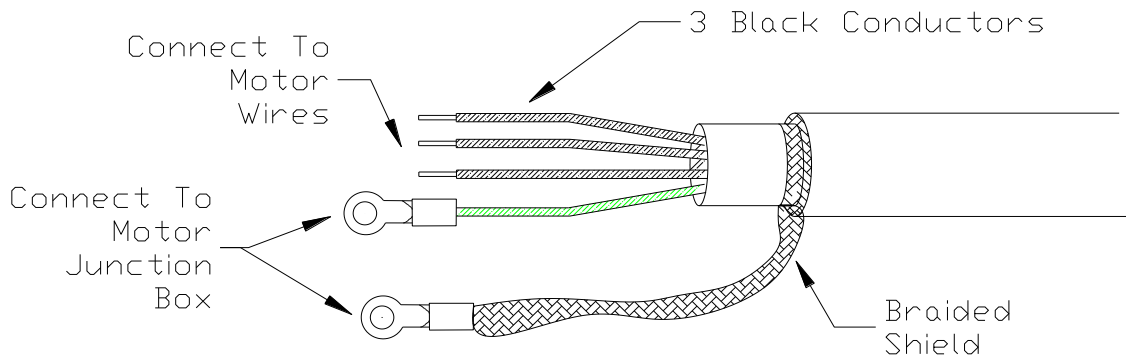

Figure 17 - Motor Power Cable
1. Prepare the end of the motor power cable as shown in Figure 17.